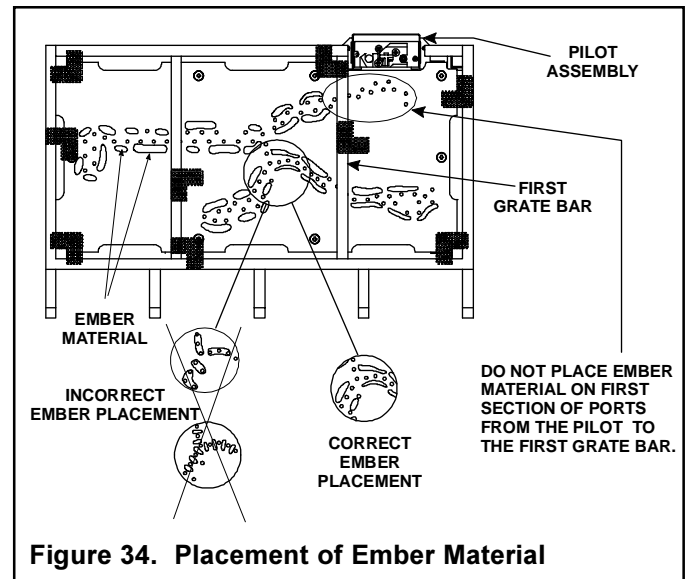

Figure 34. Placement of Ember Material
- Ember material is to be placed on the burner with caution. NOTE: Do **NOT** place ember material over burner port holes. Place only dime size pieces along outer edges of port trails. This bag is sized for (4) ember applications. Follow Figure 34 for correct placement. Failure to apply ember material as directed could result in poor lighting conditions and sooting problems. After placing ember material sprinkle GE-93 on top of the burner.